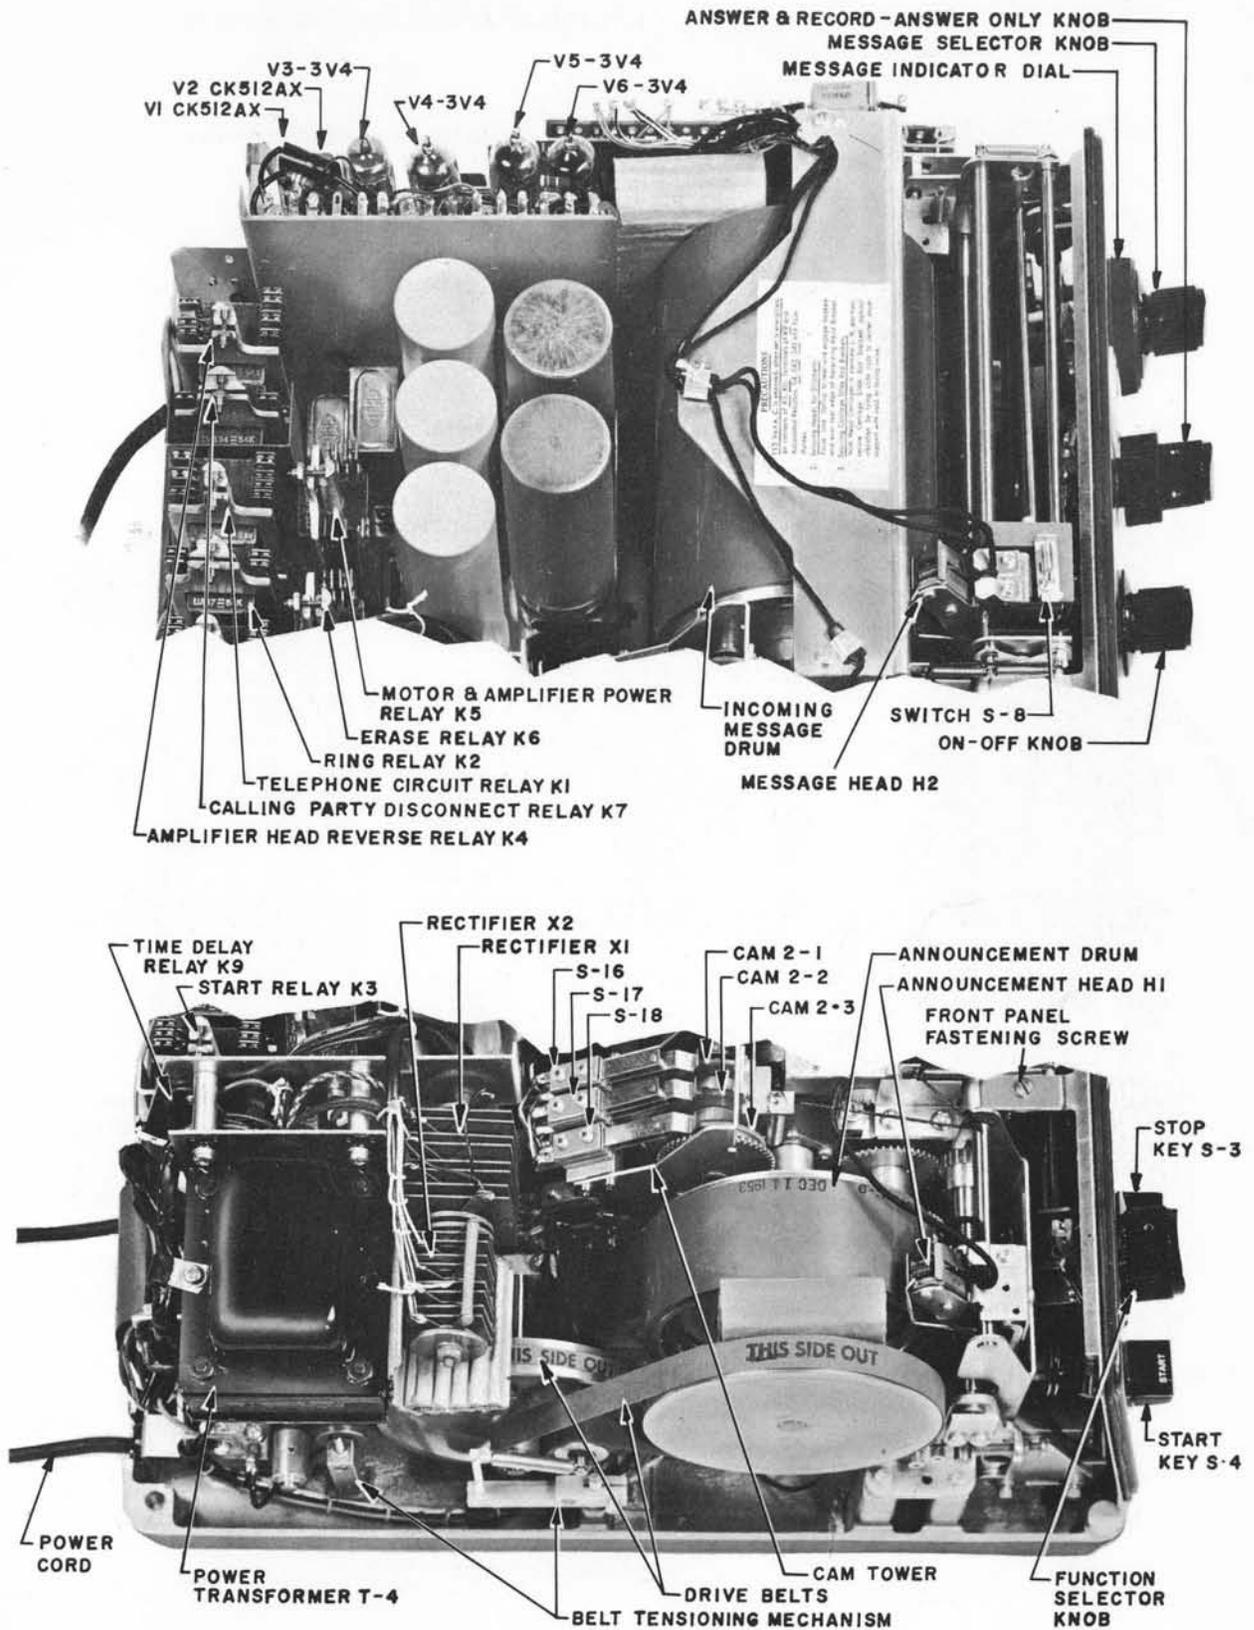

Fig. 13 - Assembled Parts of Telephone Answering Set
1.18 Fig. 13 identifies the assembled parts of the telephone answering set.